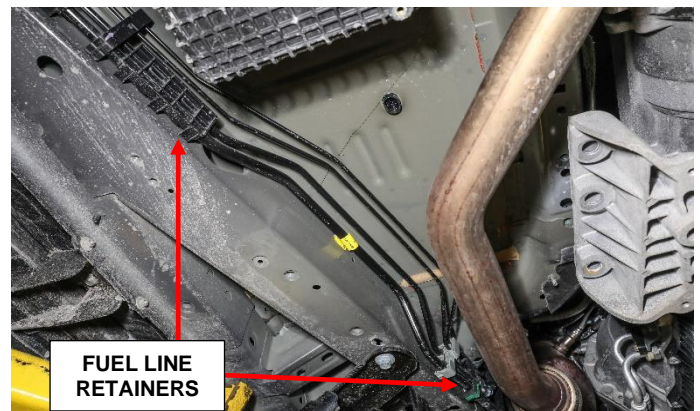

Figure 9 – Fuel Line
3. Release the retainers that hold the fuel line (Figure 9).